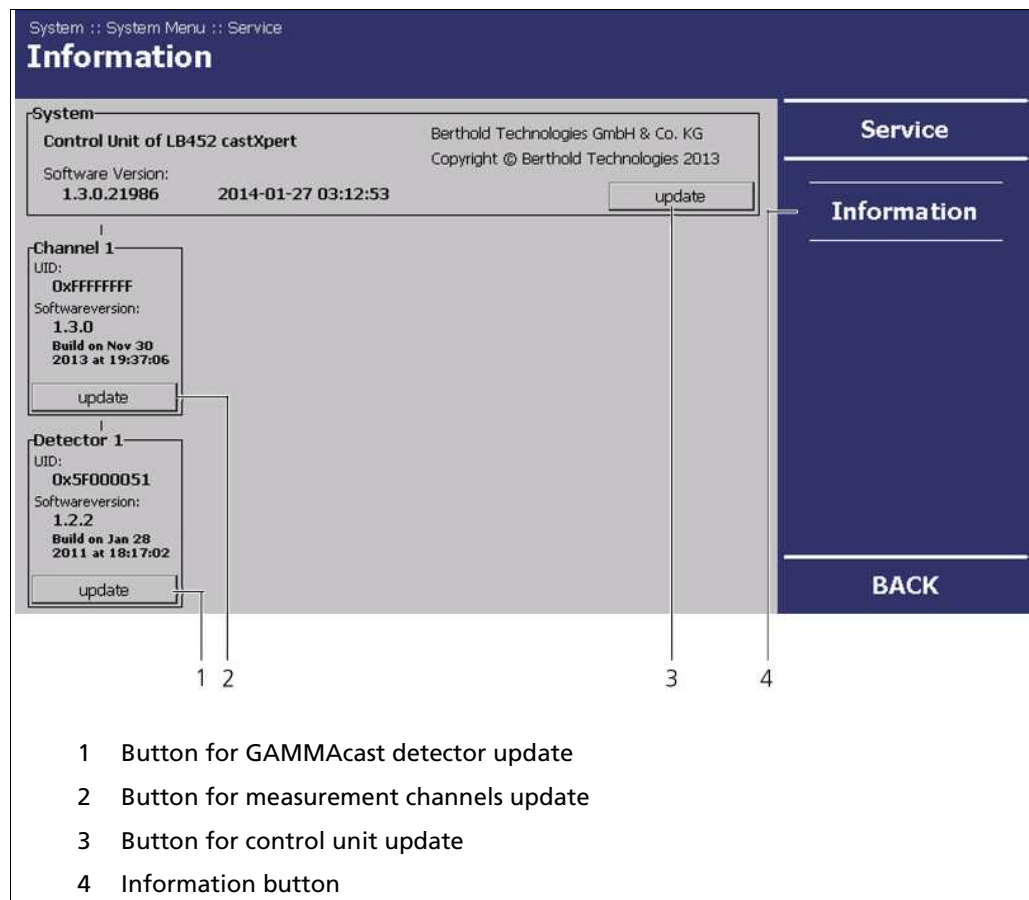

Fig. 42 System menu, Service – Information
2. In the **System menu** click on **Service | Information**. (Fig. 42, Pos. 4)
3. Click on **<update>** (Fig. 42, Pos. 3), to carry out a control unit update.
1. In the **System menu** click on **Service | Information** (Fig. 42, Pos. 4).
2. Click on **<Update>** (Fig. 42, Pos. 2), to carry out a measurement update.
1. Click on **Service | Information** (Fig. 42, Pos. 4).
2. Click on **<Update>** (Fig. 42, Pos. 1), to carry out the GAMMAcast detector update.